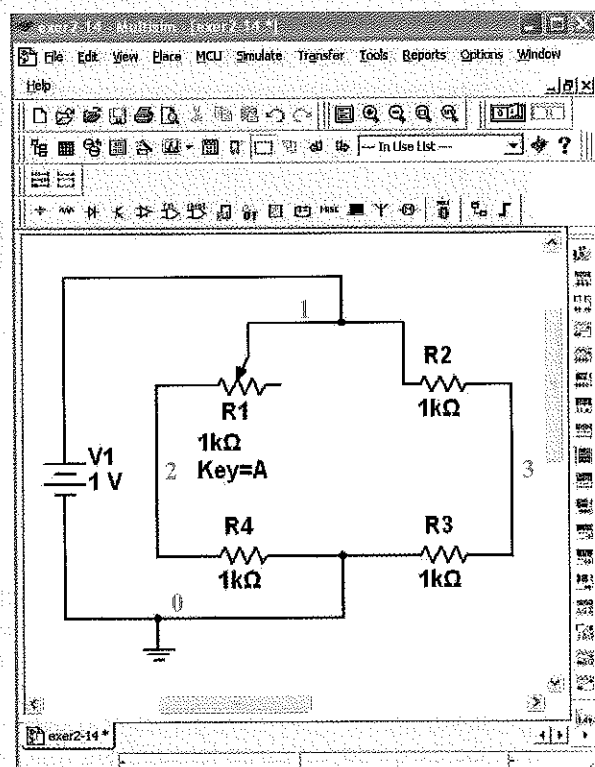

Figure E2-13
**Exercise 2-13:** The circuit in Fig. E2-13 is called a resistive bridge. How does  $V_x = (V_3 - V_2)$  vary with the value of potentiometer  $R_1$ ?